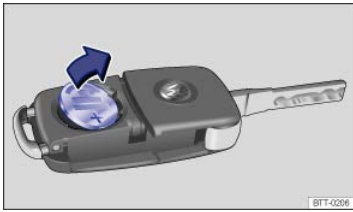

Fig. 18 Remote control vehicle key: Remove old battery.
- Use a thin object to pry the battery out of the battery compartment ⇒ *Fig. 18*.
- Position the new battery in as shown ⇒ *Fig. 18* and press it into the battery compartment (opposite to direction of the arrow) ⇒ .